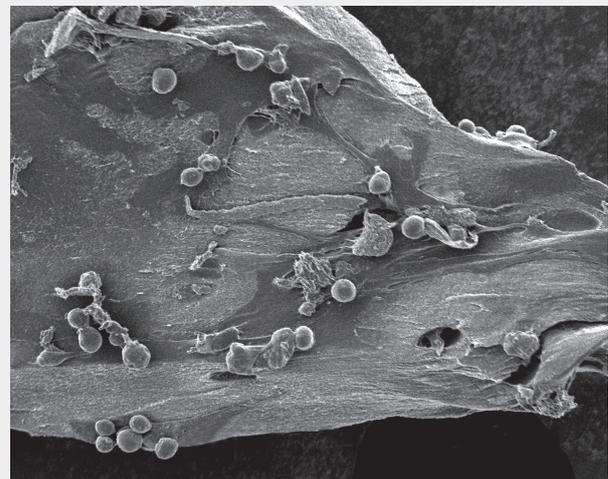

Figure 3
- The small particle size also increases the surface area, providing attachment sites for the patient's bone marrow cells^{1,2} (Figures 3 and 4 depict the ability of progenitor cells to attach to BioCartilage ECM).